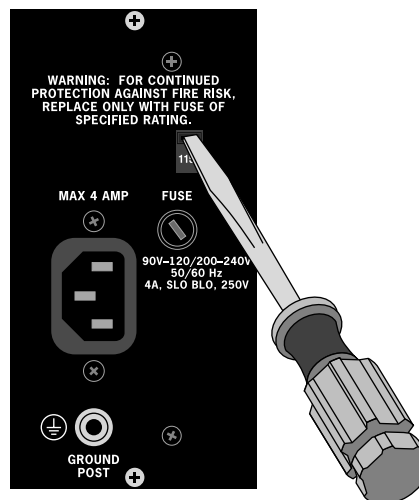

Fig. 1.6—Changing the Line Voltage
2. Using a flat screwdriver, move the notch on the voltage selector as shown in **Fig. 1.6**, so that it shows your local AC line voltage.